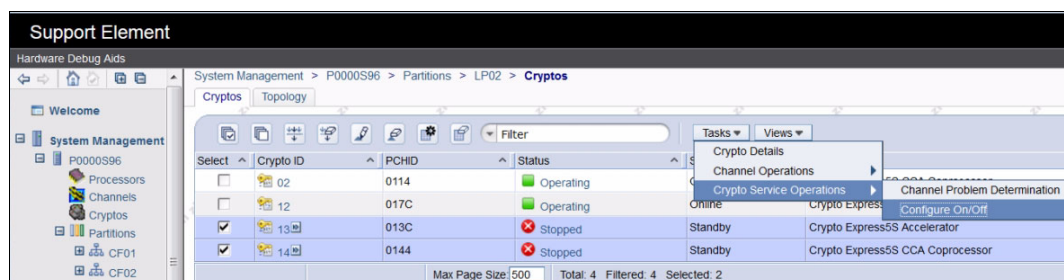

Figure 10-22 SE Crypto Service Operations: Standby
5. Click **Tasks** → **Crypto Service Operations** → **Configure On/Off** task (Figure 10-22). This task controls the online or offline (standby) state of a cryptographic processor for logical partitions that are defined in the cryptographic processor's candidate list.